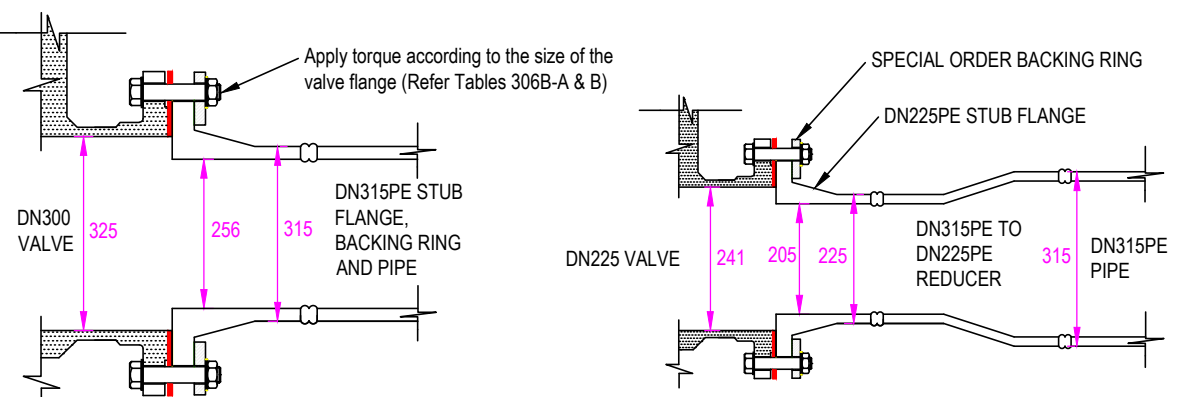

FIGURE 306B-C: ALTERNATIVE DN315PE VALVE ARRANGEMENTS
- # If preferred, DN315PE pipe may directly connect to a DN300 valve for convenience (no adaptor would be required), although the valve in this case would be larger than required. Refer to Figure 306B- B.